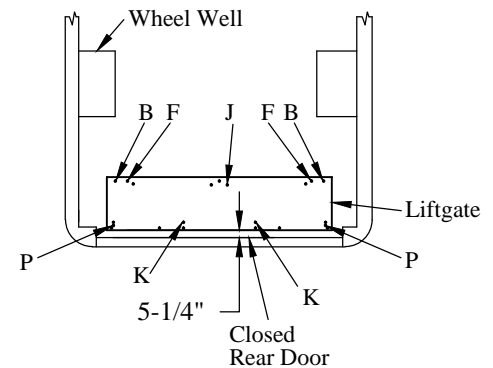

Figure 9: Drilling location (top view).
- 5-1/4" from the closed rear doors at the center (Figure 9).
8. **Insert** base plate bolts into holes in base plate, down through van floor (Figure 9).